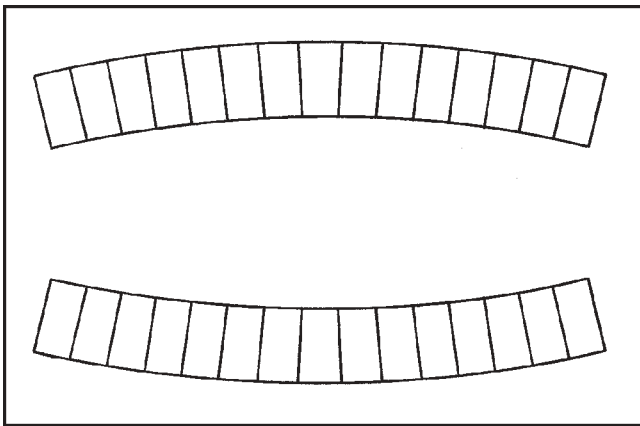

Figure 11-5 Track Assembly
*If the tracks, when laid on the ground, appear to curve to one side, then turn one set so that they curve in opposite directions, as shown in Fig. 11-5. If this is **NOT** done, the vehicle may pull to the left or right during straight line operation.*